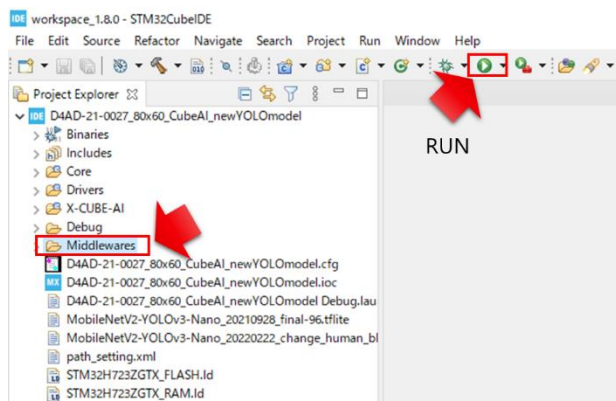

Fig. 6.26 Execution of writing
- (b) Select Middlewares in the Project explorer and click RUN in the upper right, as shown in Figure 6.26.